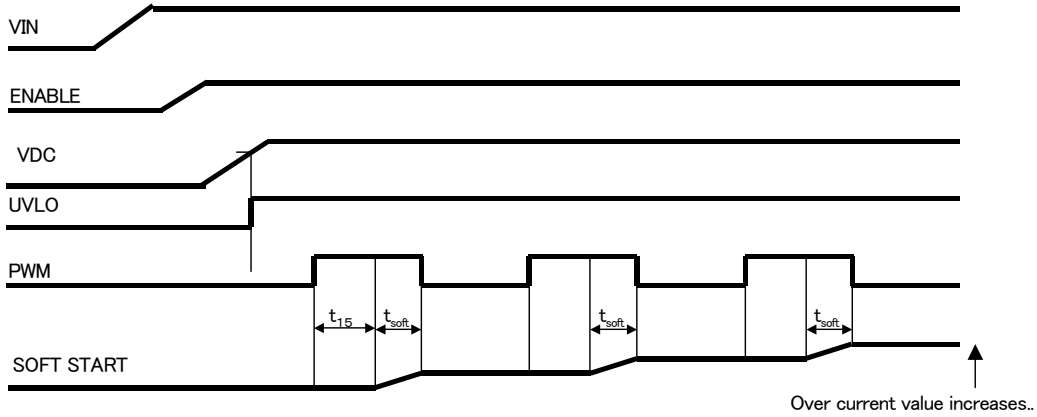

Fig. 22 Soft start
- Regulator (VDC) operates after ENABLE=H. Inside circuit operates after releasing UVLO. When IC boosts after releasing UVLO, soft start function operates. (Refer to Fig.12, 7th page). Soft start circuit needs t_{15} (more than 15 μ s) as Fig. 22 shows. Soft start operates for T_{soft} time. Please make H width of PWM more than 15 μ s until soft start finishes.